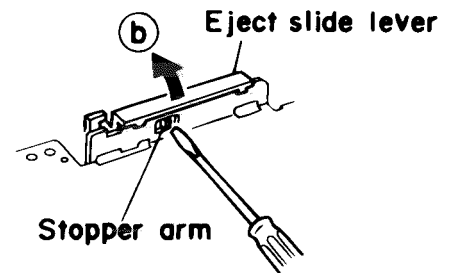

Fig.2-11
■ Eject slide lever (Fig.2-11)
1. Place the cassette mechanism back side frontward and disengage the stopper arm ① of the Eject slide lever by pressing it inwards through the opening of the chassis with a small screwdriver as shown in Fig.2-11.